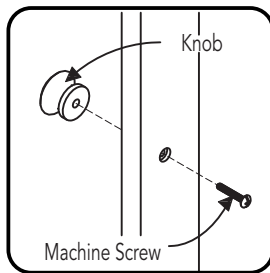

Figure 6
Assemble Knobs to Doors (M) and (N) with Machine Screws. (See Figure 6)